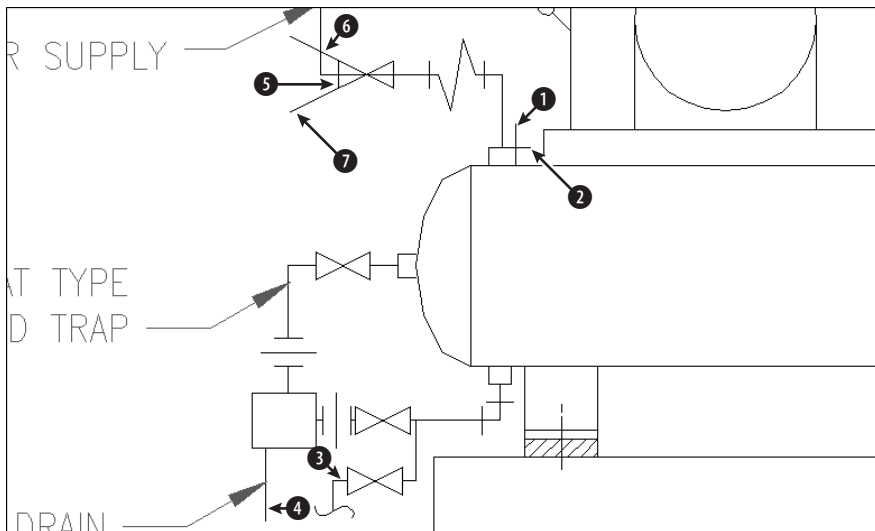
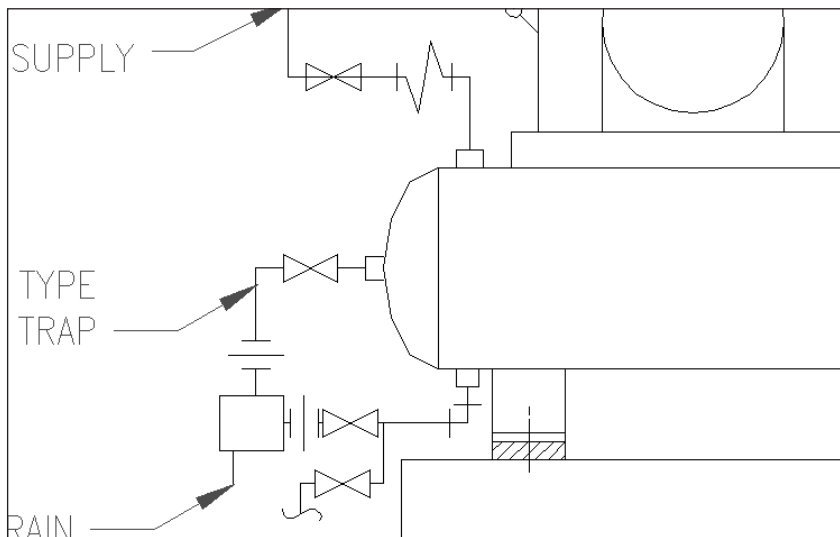

Figure 10-16: A schematic of an air compressor
Figure 10-17: The completed clamp in two views
2. Save the file as `ab10-05.dwg` in your AutoCAD Bible folder. It looks like Figure 10-16.
3. Start the TRIM command. At the `Select objects:` prompt, pick lines at ① and ② in Figure 10-16 and then press Enter.
4. At the `Select object to trim or shift-select to extend or [Project/Edge/Undo]:` prompt, again pick lines at ① and ② in Figure 10-16. Be sure to pick them outside the intersection, as shown. Press Enter to end the command.
5. Choose Trim on the Modify toolbar again. At the `Select objects:` prompt, pick the line at ③ in Figure 10-16 and press Enter.
7. Pick the line at ④ in Figure 10-16. AutoCAD trims the line. Press `Enter` to end the command.
8. Start the `TRIM` command again. At the `Select objects: prompt`, pick ⑤ and press `Enter`. At the `Select object to trim or shift-select to extend or [Project/Edge/Undo]: prompt`, pick the lines at ⑥ and ⑦. Press `Enter` to end the command.
9. Save your drawing. It should look like Figure 10-17.